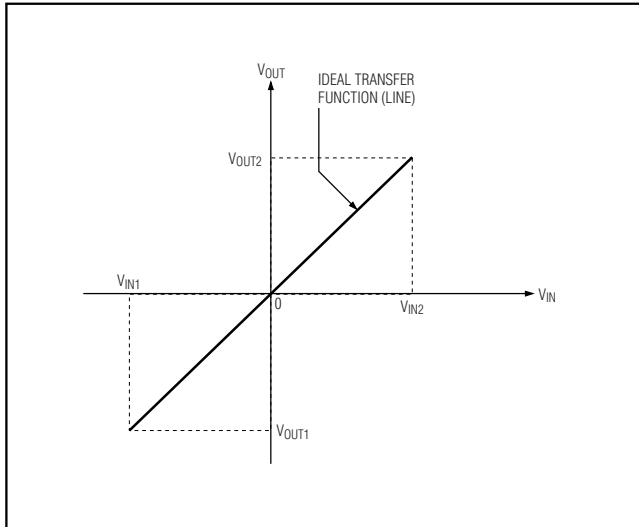
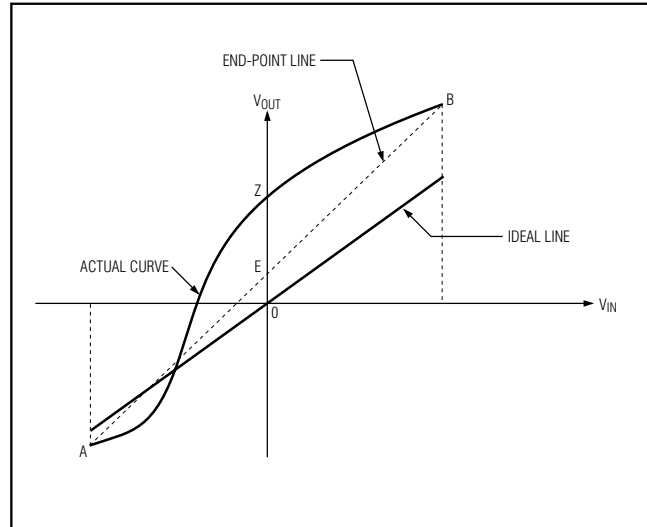
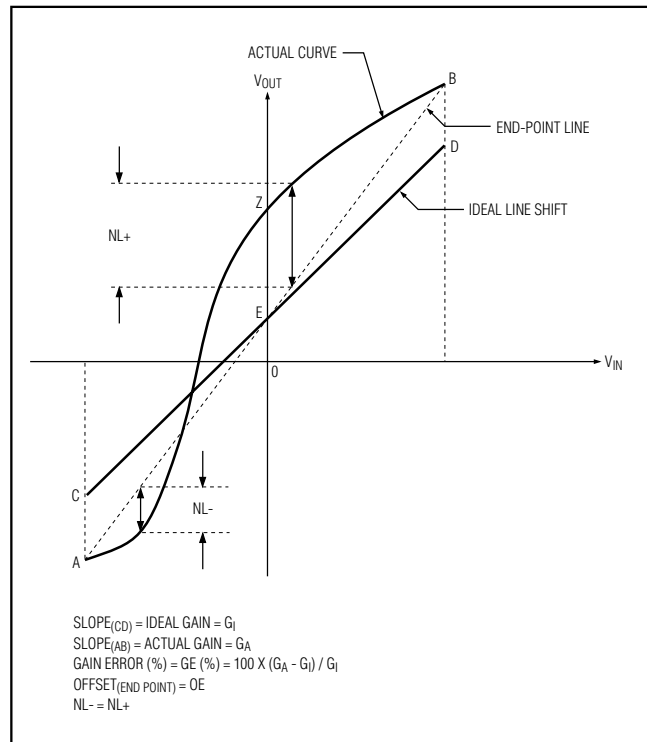

Figure 3. Transfer Function of an Ideal Instrumentation Amplifier (Straight Line Passing Through the Origin)
Figure 4. Typical Transfer Function for a Real Instrumentation Amplifier
Figure 5. Typical Transfer Function for a Real Instrumentation Amplifier (Ideal Line (CD) Is Shifted by the End-Points Offset (OE) to Visualize Gain Error)
In order to understand these terms, we must look at the transfer function of an ideal instrumentation amplifier. As expected, this must be a straight line passing through origin with a slope equal to the ideal gain (Figure 3). If the ideal gain is equal to 10 and the extreme applied input voltages are -100mV and +100mV, then the value of the output voltages are -1V and +1V, respectively. Note that the line passes through the origin and therefore a zero input voltage gives a zero output response.
The transfer function of a real instrumentation amplifier is quite different from the ideal line pictured in Figure 3. Rather, it is a curve such as the one indicated as the typical curve in Figure 4, connecting end points A and B.
Second, even if there was no nonlinearity error, i.e., the actual curve in Figure 4 was a straight line connecting end points A and B, there exists an obvious slope deviation from that of an ideal gain slope (drawn as the "ideal" line in Figure 4). This rotational error (delta slope) is a measure of how different the actual gain ( $G_A$ ) is from the expected ideal gain ( $G_I$ ) and is called gain error (GE) (see the equation below).
Figure 5 is the same as Figure 4, but the ideal line (CD) is shifted up to pass through point E (the Y intercept of end-points line AB).
The rotational nature of gain error, and the fact that it is pivoted around point E in Figure 5, shows that gain-error contribution to the total output voltage error is directly proportional to the input voltage. At zero input voltage, the error contribution of gain error is zero, i.e., the total deviation from the origin (the expected zero output value) is only due to end-points OE and nonlinearity error at zero value of input (segment EZ on the vertical axis).
The nonlinearity is the maximum deviation from a straight line, and the end-point nonlinearity is the deviation from the end-point line. As shown in Figure 5, it is likely that two nonlinearities are encountered, one positive and the other a negative nonlinearity error, shown as NL+ and NL- in Figure 5.